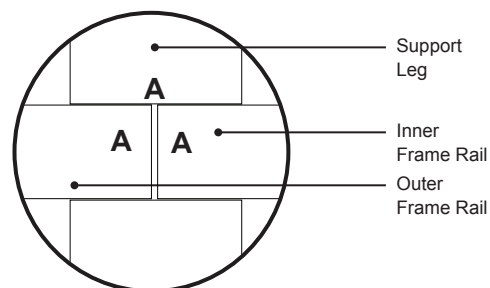

**Figure 11.** Anchoring the Slipper Bathtub
- 2 Slowly lower the unit down onto the ground, making sure that the shafts and notch cutouts align properly (Figure 11).